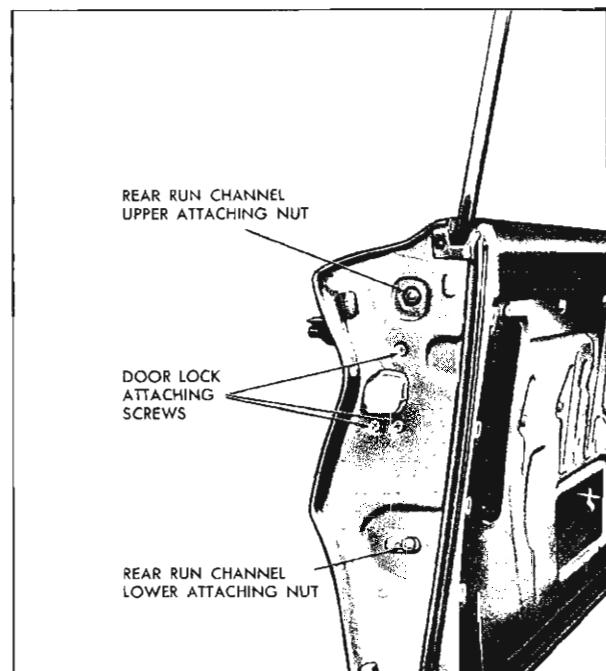

Fig. 12-25 Run Channel and Lock Attachments
2. To adjust the window in or out at rear section, loosen rear run channel lower attaching nut, adjust as required, and tighten nut (Fig. 12-25).
3. Remove door lock attaching screws and remove lock assembly through inner panel access hole (see Fig. 12-25).